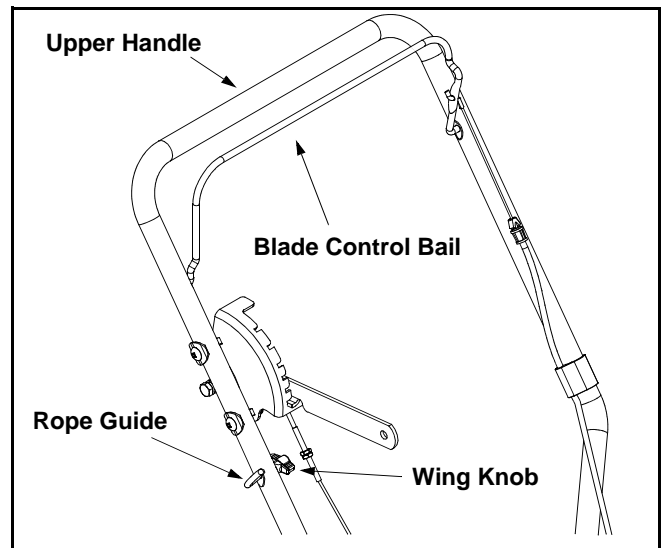

Figure 3
- Loosen, but do NOT remove, the wing knob which secures the rope guide to the upper handle. See Figure 3.
**NOTE:** The starter rope will not pull out of the engine unless the blade control bail (refer to Figure 3) is depressed against the upper handle.